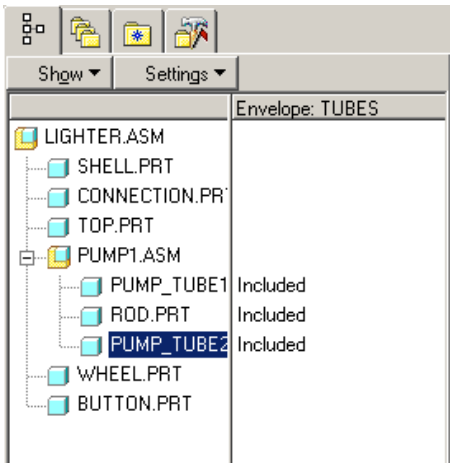

Figure 7
6. From the Model Tree, select `pump1.asm`, and expand it. With Include highlighted pick `pump_tube1.prt`, `pump_tube2.prt`, `rod.prt`, as shown in Figure 7. Note that in Figure 7 the component `pump1.asm` is not listed as Included. If `pump1.asm` is listed as Included, select the Exclude button and pick this component in the Model Tree. These three highlighted components will be represented by the envelope. Click Envelope Part and name the part file "tubes", then click OK.